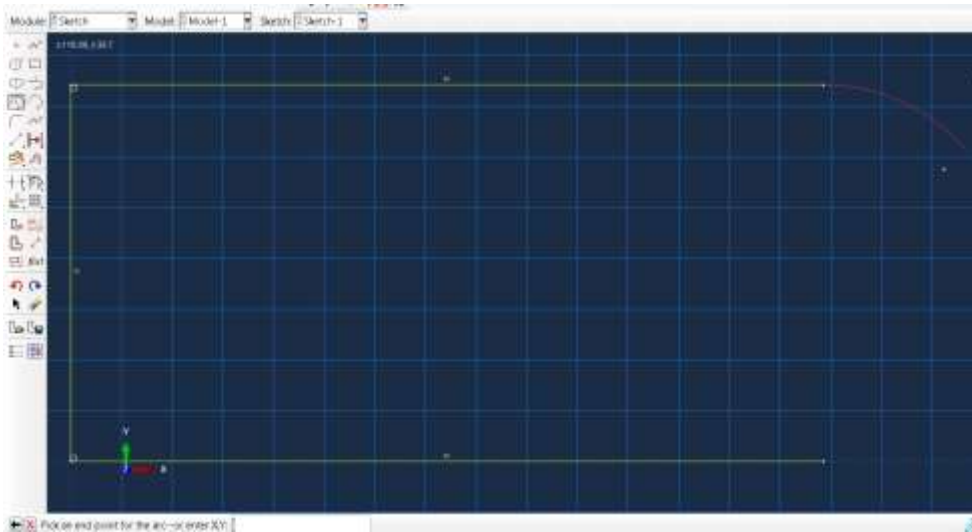

Figure W1-6 Adding semi-circular end to lug profile.
- b. Next create the radiused end of the lug using the **Create Arc; Centre and 2 end points** tool, . As shown in Figure W1-6, define the arc centre at (100,25) then pick the end points of the open box to complete the lug profile. Click Mouse button 2 to complete the operation.